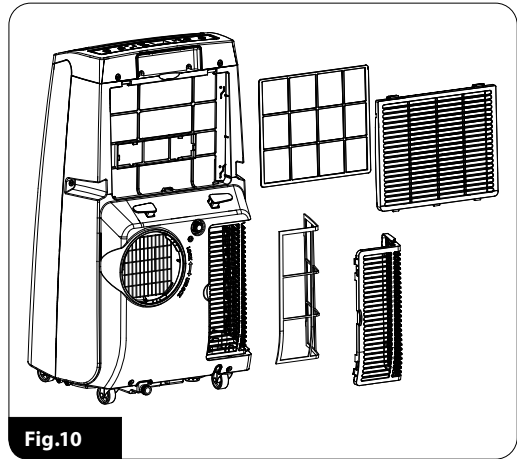

Fig.10
2. Clean the filters every 2 weeks or more often if the air conditioner's efficiency drops. The filters are installed beneath the air intake grilles (8) and (13). Filter cleaning procedure:
- Release the upper and lower air intake grilles (13) (8) from the latches on the back of the air conditioner. Remove the filter (Fig. 10) from the back of each air intake grille by gently prising the tabs (do this very carefully or the filter / grille will be damaged).